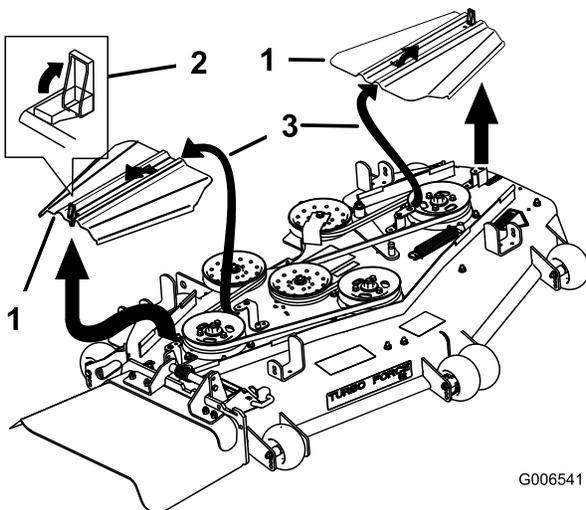

Figure 86
5. Remove the belt covers (Figure 86).